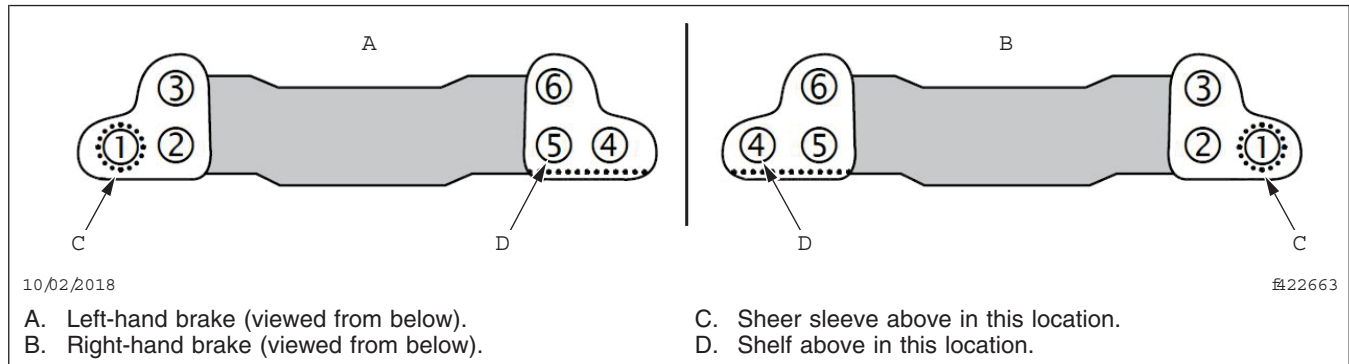

Fig. 4, Tightening Pattern, Bendix Radial Mounted Caliper
6. Tighten the carrier mounting bolts in two steps, using the pattern shown in Fig. 4.